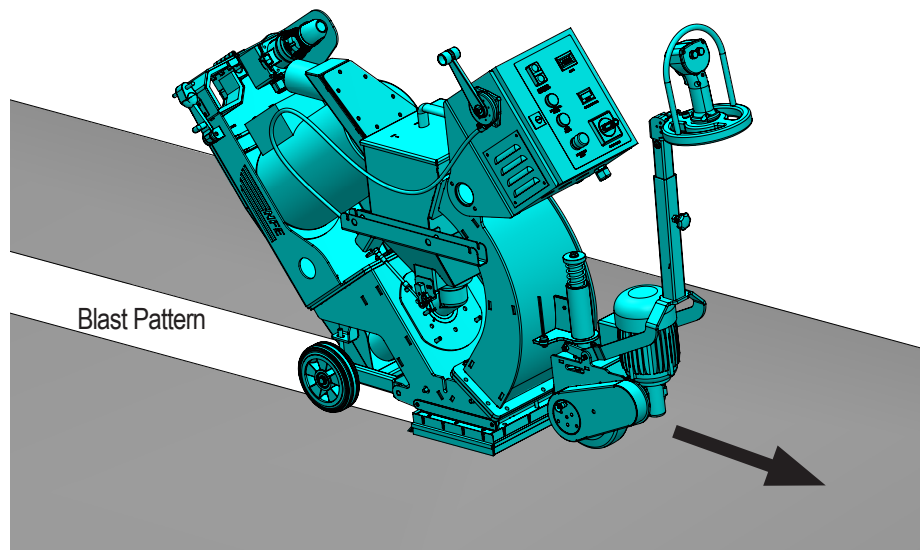

FIG. 19
Starting the Machine (Figure 19)
- Continue to slowly move the machine forward and watch the blast area carefully. See Figure 19. If necessary, readjust the blast pattern (see Adjusting the Blast Pattern), use the shot valve stop to adjust the maximum opening of the shot valve, or change the travel speed of the machine to achieve the desired profile.